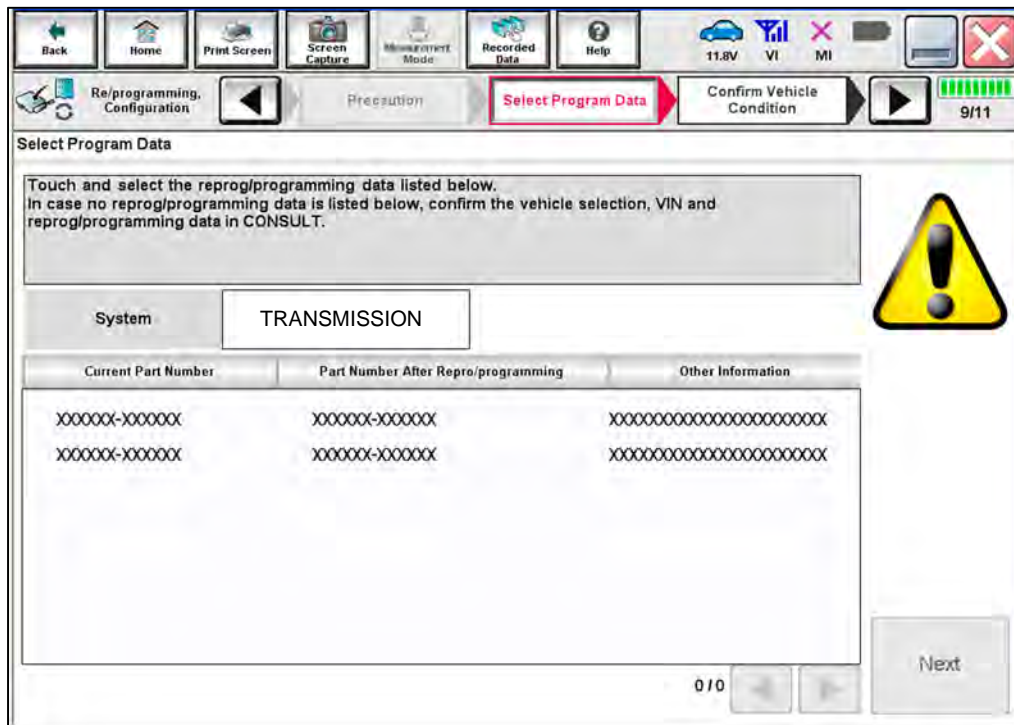

Figure 11
- If more than one new P/N is available, the screen in Figure 11 displays.